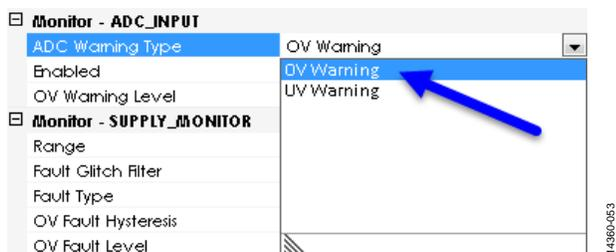
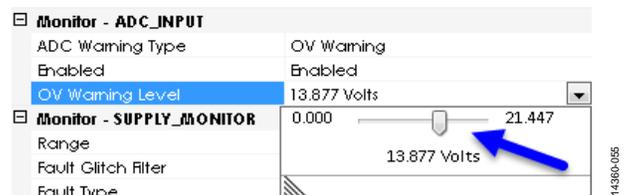
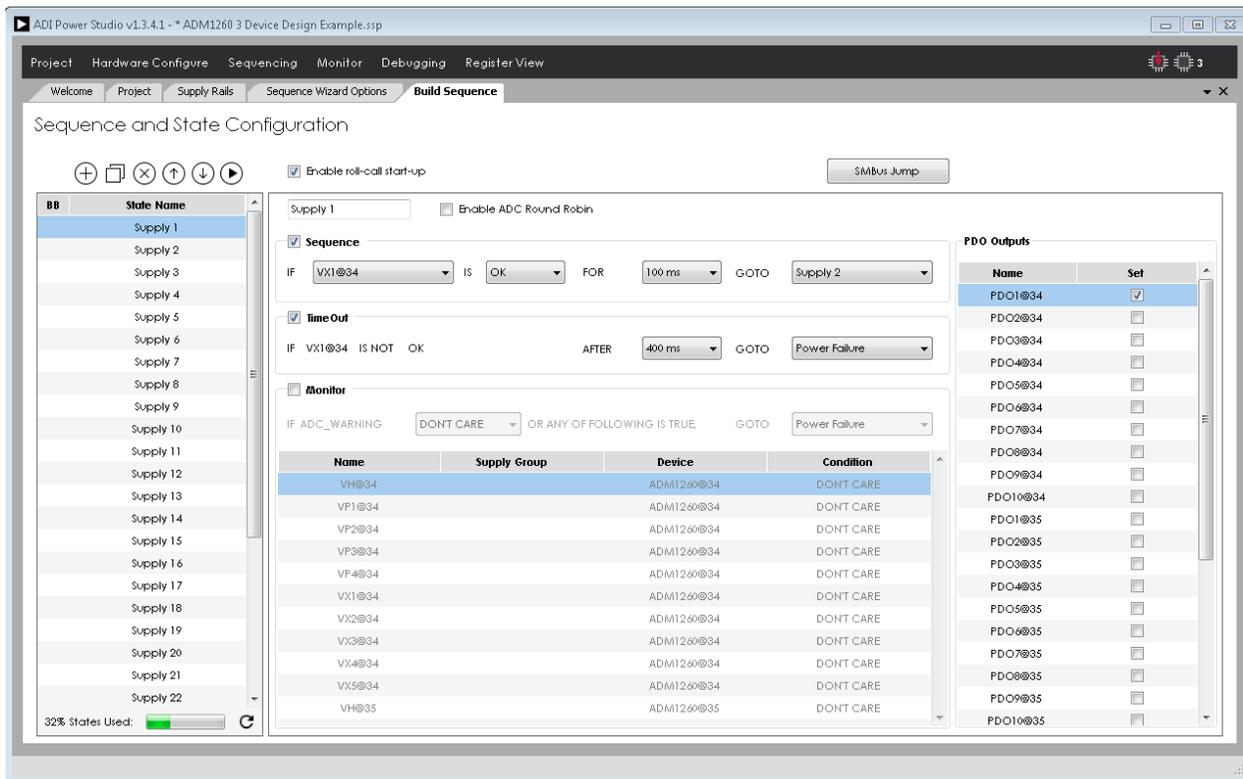

Figure 53. Setting the **ADC Warning Type** Property
Figure 55. Setting the **OV Warning Level** Property
Figure 76. Display of a Generated Sequence in the **Build Sequence** Tab
To set the **ADC Warning Type** property, click the **ADC Warning Type** drop-down menu under the **Monitor - ADC_INPUT** menu. Select either the **OV Warning** or the **UV Warning** option. Click the arrow to open the drop-down menu and select **OV Warning**, shown in Figure 53.
To set the **OV Warning Level** property, click the **OV Warning Level** drop-down menu under the **Monitor - ADC_INPUT** menu. Enter the voltage value by typing the value in the field or using the slider tool. Set the **OV Warning Level** to **13.877 Volts**, shown in Figure 55.
- **Disable all Rails in the fault states**—When this option is checked, the sequencer disables all the rails if any fault occurs during a sequence. If this option is not selected, the sequencer states configure to not disable any rails during a fault. However, individual states can be edited later in the **Build Sequence** tab (see Figure 76) to disable any combination of rails as required.
- **Enable Timeout for each state**—When this option is checked, the sequencer enables a timeout for each state. In most cases, timeouts are required for most or all states. However, if this option is not checked, some states do not have timeouts. Timeouts can be added later to any of the selected states in the **Build Sequence** tab (see Figure 76).
- **Transitions after voltage is stable for (ms)**—This option allows the user to set the time the sequencer waits for the rail being monitored to become stable. If the overvoltage (OV) and undervoltage (UV) condition is met, the sequencer goes to the next state assigned in the sequence engine. This time must always be less than the **Timeout after (ms)** value or else the sequencer jumps to the fault state and prevents any other sequencing states to complete.
Once the changes to the sequence are accepted, the **Build Sequence** tab opens the sequencing states, shown in Figure 76. The sequence wizard generates all the rail states based on the initial supply rails diagram and the property values set for each rail, shown in Figure 53 to Figure 55.